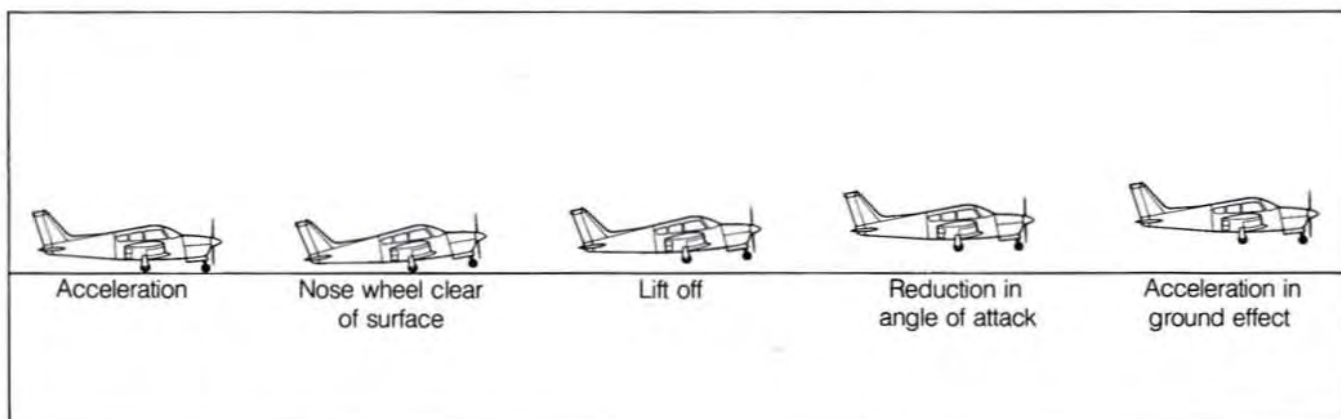

Figure 2-40 Soft Field Take-off
4. Soft or rough surfaces (Fig. 2-40).